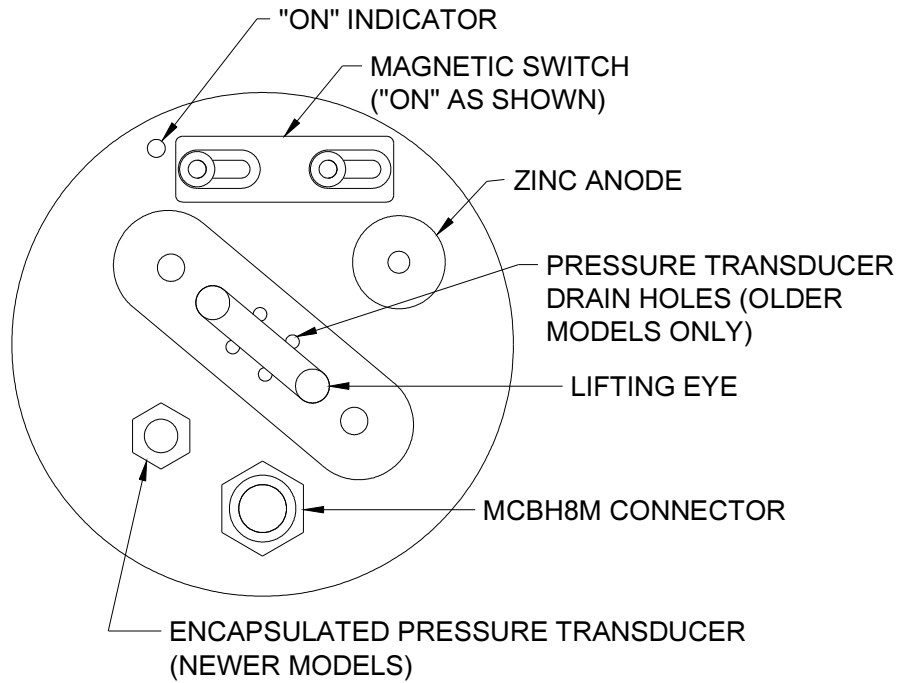

Figure 3 HydroScat-2 Back End Cap
If your HydroScat-2 has the older style of transducer under the suspension eye (see Figure 3 on page 4), flush the pressure transducer with fresh water when rinsing the instrument. If possible, spray water directly into the drain holes, but not at very high pressure.
- 28) To start a cast when the HydroScat is asleep and disconnected from the computer, move the magnetic switch to the on position (see Figure 3 on page 4).